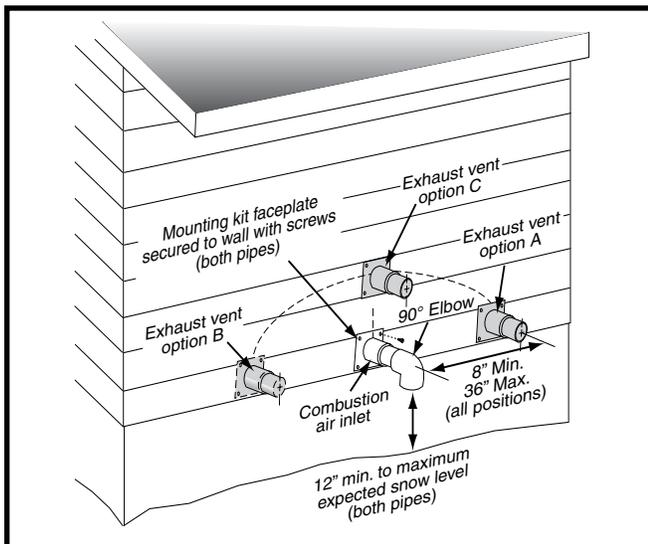
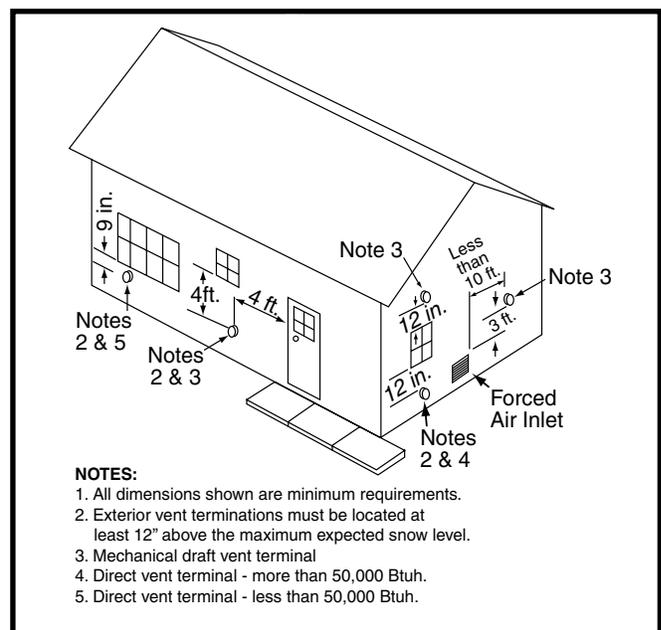
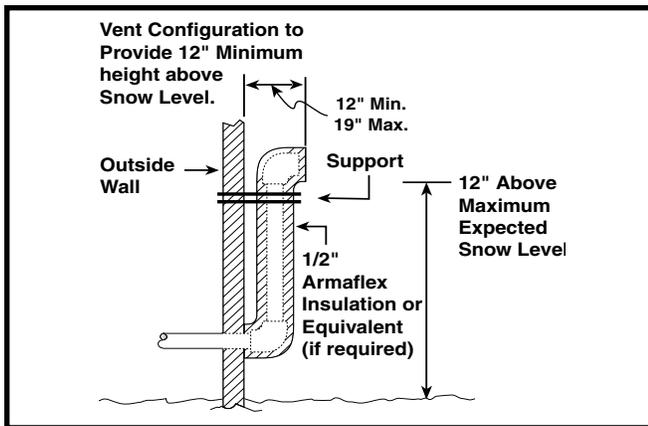
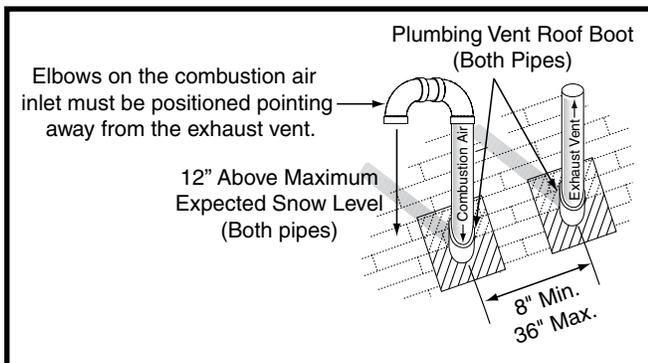

Figure 7. Inlet & Exhaust Pipe Clearances
Figure 8. Vent Locations
Figure 9. Alternate Horizontal Vent Installation
Figure 10. Vertical Vent Termination
- The combustion air intake and the vent exhaust must be located in the same atmospheric pressure zone. This means both pipes must exit the building through the same portion of exterior wall or roof as shown in Figure 7 (page 11), Figure 8, Figure 9 (page 12), & Figure 10.
Vent and combustion air intake terminations shall be installed as depicted in Figure 7, Figure 8, and in accordance with these instructions:
- All minimum clearances must be maintained to protect building materials from degradation by flue gases as shown in Figure 8.
- When the vent pipe must exit an exterior wall close to the grade or expected snow level where it is not possible to obtain clearances shown in Figure 7, a riser may be provided as shown in Figure 9 \(page 12\). Insulation is required to prevent freezing of this section of pipe. For vent freezing protection, see page 12.
The combustion air vent and exhaust vent must be configured as shown in Figure 9. Improper vent terminations can cause the recirculation of flue gases which may result in furnace vibration. In severe cases, the furnace will cycle, due to the intermittent contact between the flame and the flame sensor. If you notice these oscillations occurring, check the vent configuration to make sure the exhaust vent does not have a 90 degree termination.
- The combustion air inlet pipe must have a 90 degree termination elbow, and pointed downwards as shown in Figure 7 \(page 11\).
Termination spacing requirements from the roof and from each other are shown in Figure 10.
- The termination clearances shown in Figure 10 are maintained.